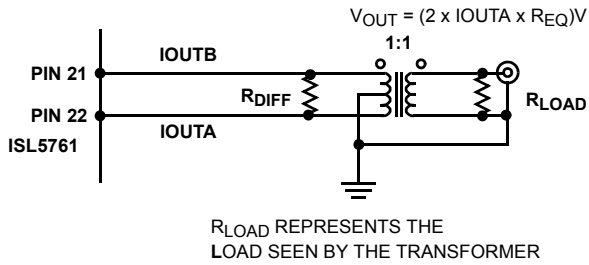
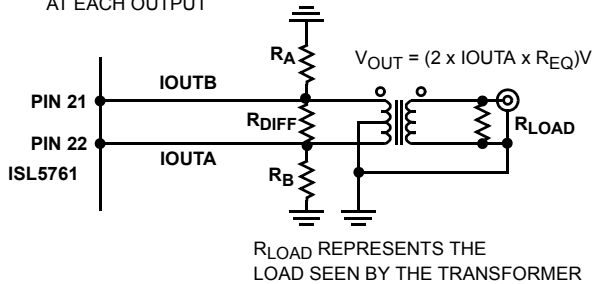

FIGURE 13. OUTPUT LOADING FOR DATASHEET MEASUREMENTS
FIGURE 14. ALTERNATIVE OUTPUT LOADING
# Typical Performance (+3.3V Supply, Using Figure 13 with $R_{DIFF} = 100\Omega$ and $R_{LOAD} = 50\Omega$ )
**Typical Performance** (+3.3V Supply, Using Figure 13 with  $R_{DIFF} = 100\Omega$  and  $R_{LOAD} = 50\Omega$ ) (Continued)
IOUTA and IOUTB can be used in a differential-to-single-ended arrangement to achieve better harmonic rejection. With RDIFF= 50Ω and RLOAD=50Ω, the circuit in Figure 13 will provide a 500mV (-2.5dBm) signal at the output of the transformer if the full scale output current of the DAC is set to 20mA (used for the electrical specifications table). Values of RDIFF= 100Ω and RLOAD=50Ω were used for the typical performance curves. The center tap in Figure 13 must be grounded.
In the circuit in Figure 14, the user is left with the option to ground or float the center tap. The DC voltage that will exist at either IOUTA or IOUTB if the center tap is floating is IOUTDC × (RA//RB) V because RDIFF is DC shorted by the transformer. If the center tap is grounded, the DC voltage is 0V. Recommended values for the circuit in Figure 14 are RA=RB=50Ω, RDIFF=100Ω, assuming RLOAD=50Ω. The performance of Figure 13 and Figure 14 is basically the same, however leaving the center tap of Figure 14 floating allows the circuit to find a more balanced virtual ground, theoretically improving the even order harmonic rejection, but likely reducing the signal swing available due to the output voltage compliance range limitations.